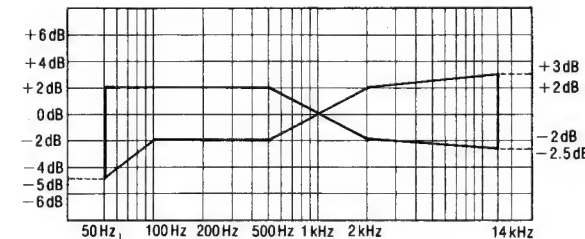

Fig. 9
5. Playback the recorded signal and assure that it is within the range shown in **Fig. 9** in comparison to the reference frequency (1 kHz).